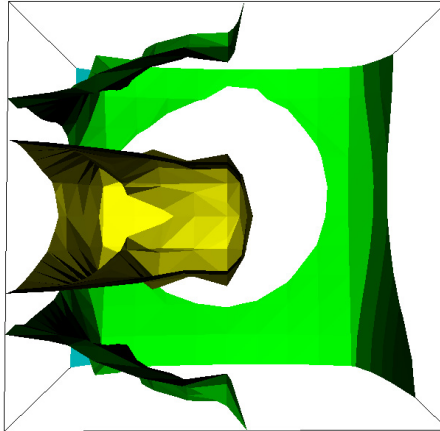

Figure 29. Isosurfaces generated by Model Viewer.
17. After a short wait, **Model Viewer** shows an empty box from the top. From the **Model Viewer** menu, select **Show|Isosurfaces**. **Model Viewer** then displays isosurfaces of equal concentration (fig. 29). An isosurface is the 3D equivalent of a contour line. It is a surface through locations where some quantity has equal values. In this case, it is a set of surfaces through locations where the concentrations are the same.